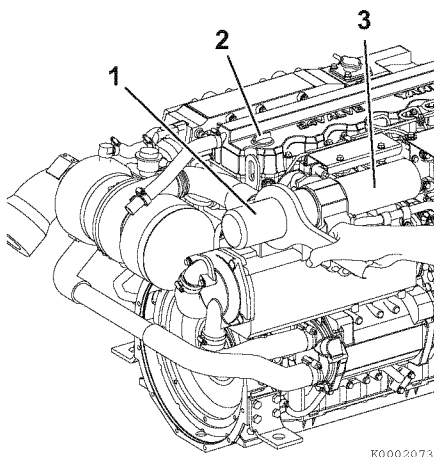

Figure 2
For easier draining, remove the engine oil fill cap (2, **Figure 2**) (yellow) at the top of the rocker arm cover. Dispose of used oil properly.
3. Remove the engine oil filter (1, **Figure 2**) with a filter wrench (turn counterclockwise).